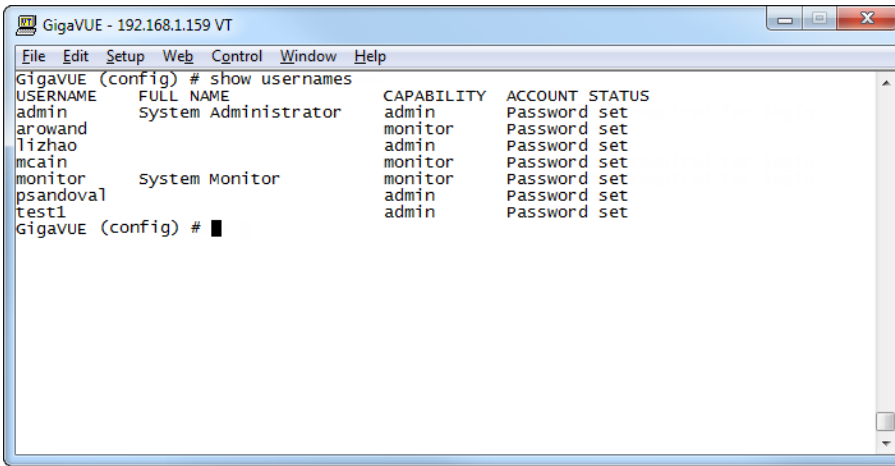

Figure 7 Reviewing the User List
2. Once you have configured these basic user accounts, use the **show usernames** command to review your settings. Figure 7 Reviewing the User List shows some sample **show usernames** output after several users have been added.